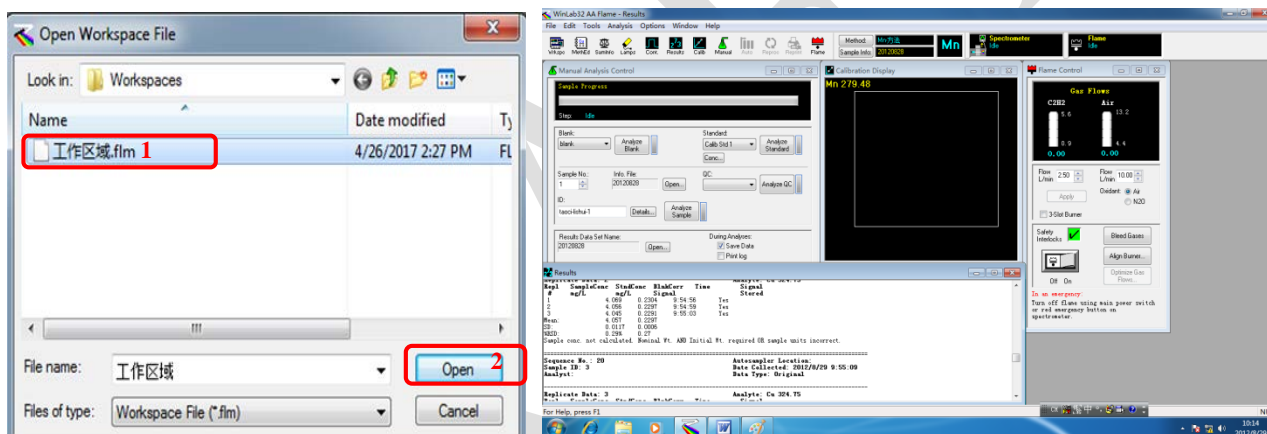

Fig. 11
3.1.13 Click on  to open the workspace, which usually contains **manual analysis control, flame control, calibration display and results.** (fig.11)